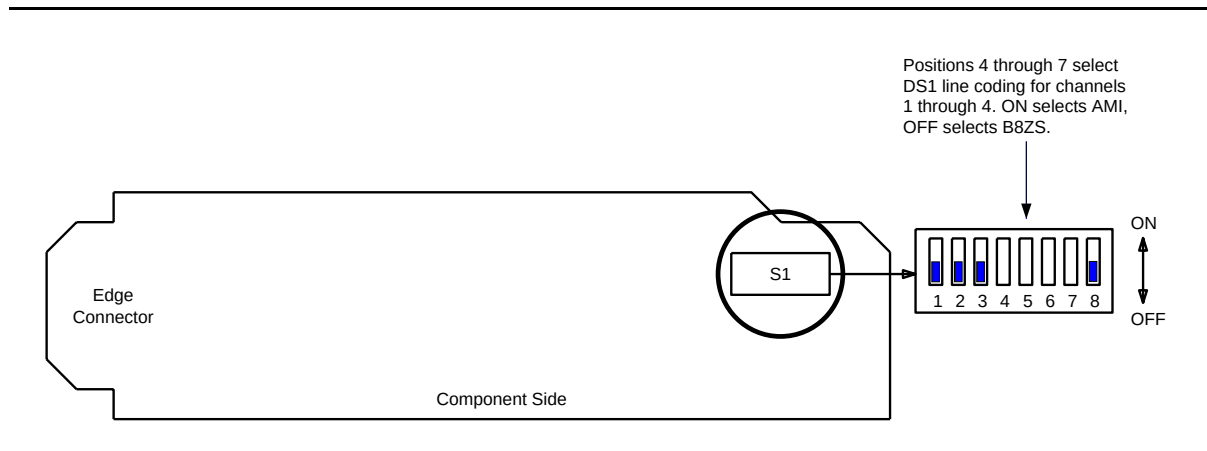

Figure 1 – DS1/DS1PM Option Settings
Refer to Figure 1 and Table A for LBO option switch settings. Set S1-1 through S1-3 to OFF if cable length is short or set LBO per Table A for longer lengths.
Refer to Table B and Figure 1 and set the line code option switches, if required.
7. Set the LBO option switches on the protection **DS1/DS1PM** circuit pack using Figure 1 and Table A.